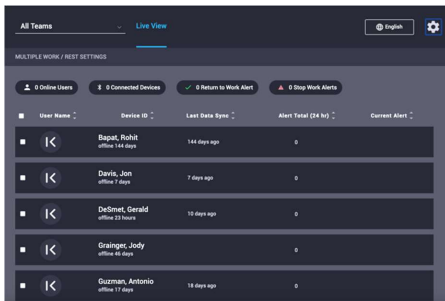

Figure 26: Kenzen Team Dashboard
3. The Team Dashboard displays **All Team** members that you have permission to see as a Team Administrator (Figure 26).